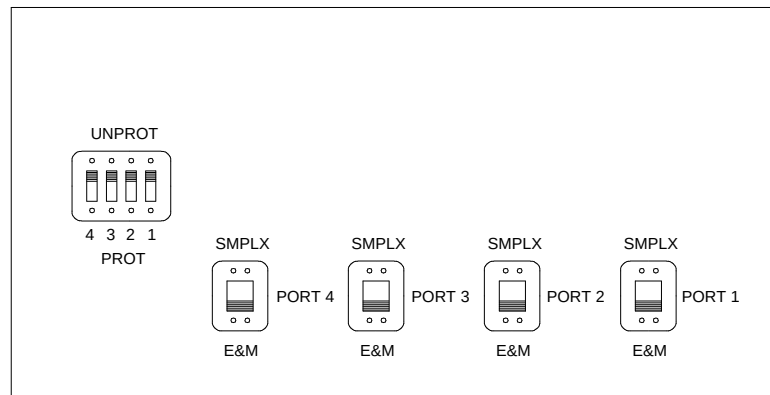

Figure 12-62. TN760 Tie Trunk Circuit Packs (Component Side)
3. For customer-owned (not -leased) tie-trunk facilities (such as campus environments), TN760 circuit packs provide signaling capabilities beyond those specified by the industry-wide E&M standard. Use Figure 12-62 and Table 12-18 to choose the preferred signaling format, set switches on the TN760 circuit pack, and administer the port.